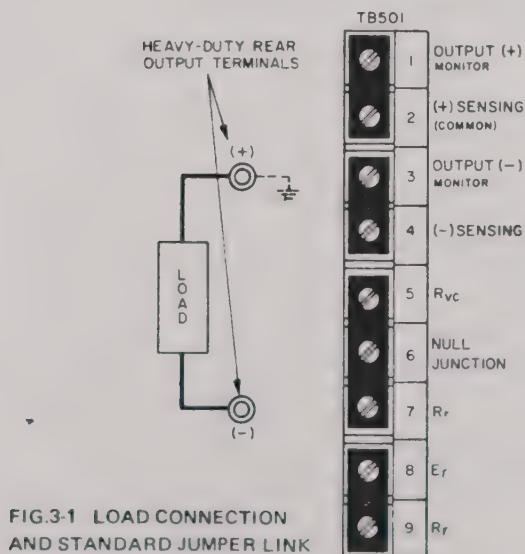
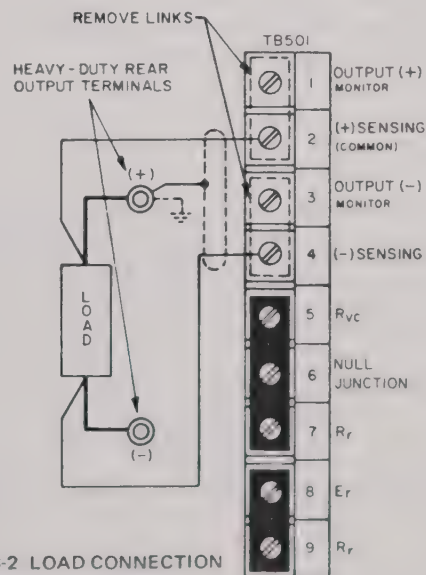

FIG. 3-1 LOAD CONNECTION AND STANDARD JUMPER LINK CONNECTIONS WITHOUT ERROR SENSING
FIG. 3-2 LOAD CONNECTION USING REMOTE ERROR SENSING
- 3-2 GENERAL. The Power Supply is shipped from the factory with five (5) removable jumper links in place at the rear barrier strip (TB501) as shown in FIG. 3-1. **THESE LINKS MUST BE IN PLACE AND SECURED TIGHTLY** for standard local operation. Loose terminal links or wires at the barrier strip will cause malfunction of the power supply.
- 3-3 LOAD CONNECTION The load may be connected in any of the two ways illustrated (FIG. 3-1,3-2). Load connecting wires should be as heavy as practicable, since load wire voltage drops will degrade regulation performance. Twisting of load wires will help to preserve the low output impedance of the power supply. To keep the DC voltage drop in the load connecting wires to a minimum, and to preserve the dynamic characteristics of the power supply (AC stability, output impedance and recovery time), load wires and error sensing leads should be as short and as large in diameter as practicable. Both lead pairs should preferably be tightly twisted. For minimum ripple and noise pick-up, the error sensing leads must be shielded. The shield, as well as one side of the output (preferably the positive), should be returned to the common ground point (Refer to FIG. 3-2)
- 3-5 Specified regulation performance **DIRECTLY AT THE LOAD** requires the use of remote error sensing. A twisted, shielded pair of wires from the sensing terminals directly to the load will compensate for load wire voltage drops up to 0.5 volt per wire (Refer to FIG. 3-2). Observe polarities: The positive sensing wire [from terminal (2)] goes to the positive load wire.